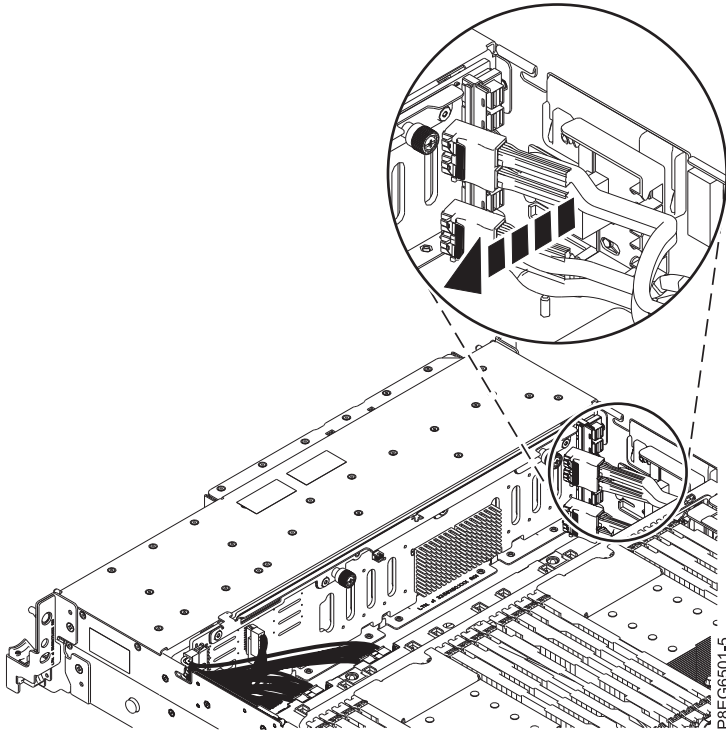

Figure 3. Unseating the front SAS cable from the cable guide
4. Unseat the front SAS cable from the cable guide on the side of the system chassis, as shown in Figure 3 on page 6.